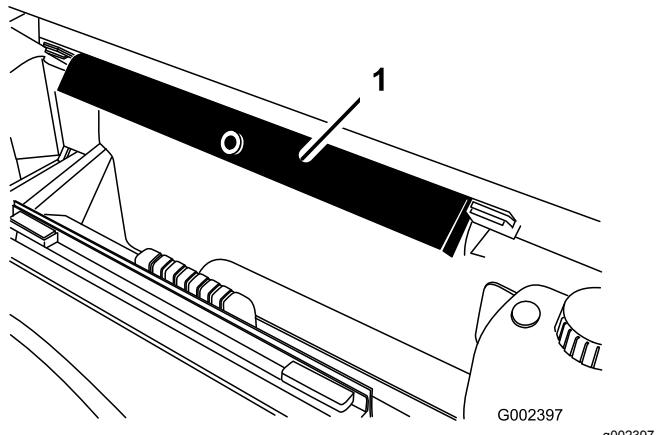

Figure 78
7. Remove the bed support from the storage brackets on back of the ROPS panel (Figure 78).